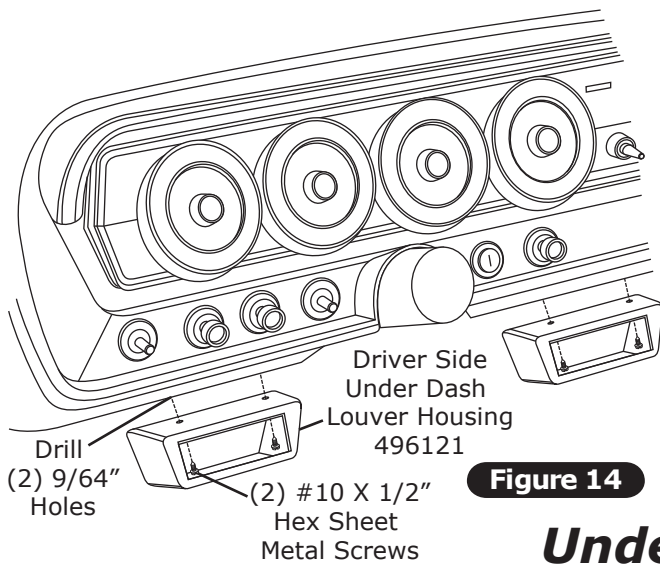

Figure 14
1. Place driver side louver housing under dash. Mark and drill (4) 9/64" holes as shown in Figure 14, below.
2. Secure louver housing to dash using (4) #10 x 1/2" hex sheet metal screws as shown in Figure 14, below.